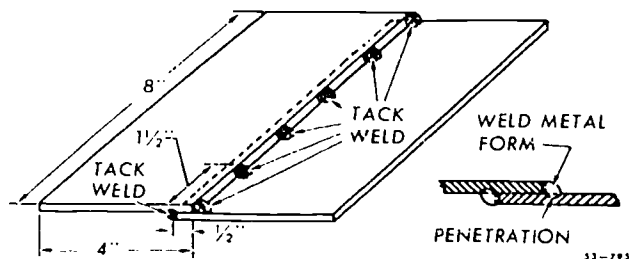

Figure 2-16. Lap joint setup.
- a. The *upper leg* should equal the thickness (T) of the base metal; the lower leg should equal  $1\frac{1}{2}$  times T.
**Welding Techniques.** When you join metal thicknesses of  $\frac{1}{8}$  inch or less, overlap the sheets from four to six times the metal thickness. Tack weld the joint at intervals of approximately  $1\frac{1}{2}$  inches, as shown in figure 2-16. Before welding, preheat the edges of the sheet by directing the flame above and below the joint edges. This raises the temperature of the metal to a point that produces fusion into the root of the joint.
Hold the torch approximately  $60^\circ$  from horizontal to direct most of the heat upon the bottom sheet, and point the flame in the direction of travel. When the edges are heated to the molten state, the center of the molten pool should be in line with the unmelted upper edge of the joint. This procedure permits a greater amount of the base metal to be melted into the molten pool, thus requiring less filler rod and assuring adequate fusion into the upper sheet. To prevent possible undercutting at the upper edge of the joint and overlapping on the lower plate, you should add the filler rod to the upper edge of the molten pool. You can determine the speed of travel by the size of the molten pool at the joint edges. Figure 2-16 shows dimensions, weld metal form, and penetration. You can use the following weld characteristics to determine incorrect techniques in making lap welds: